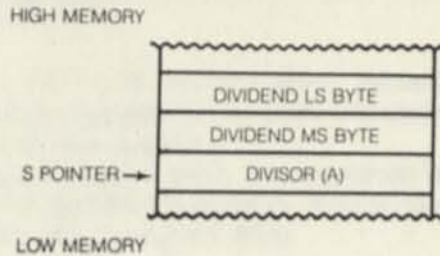

Figure 11.
DIV168 is entered with the dividend in the X register and the divisor in the A register. The PSHS pushes X and A into the S stack. After the PSH, the stack looks as shown in Figure 11, with the S pointer pointing to the last byte (A) pushed.
One tricky point in DIVIDE: Note that the subtract and add used +2,S. This is a difference of 2 from Figure 11 because the BSR to DIVIDE pushed 2 more bytes onto the stack and adjusted the S pointer. We're now back at line 310. At this point the first 8 iterations have been done and B holds the upper 8 bits of the quotient. This is now stored in the upper 8 bits of the divisor in the stack, as we'll no longer be needing them. The lower 8 bits of the divisor is now put into the B register and another call to DIVIDE is made. On the return from this call, the lower order quotient bits replace the lower-order divisor bits.